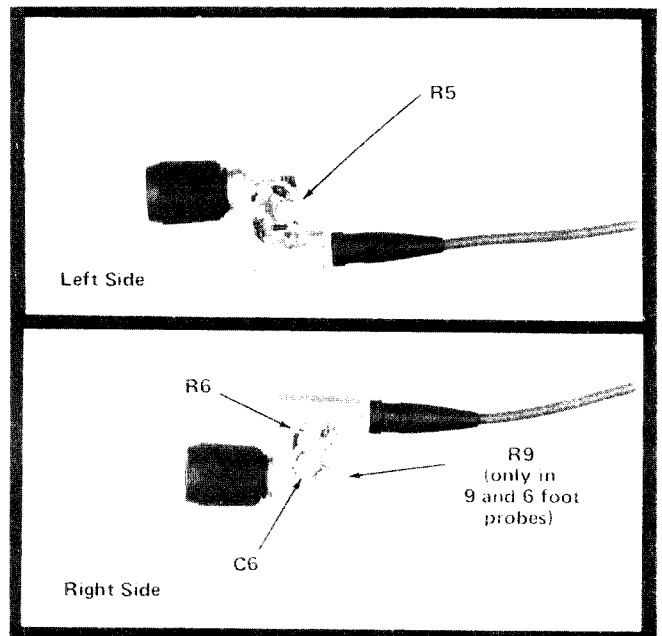

Fig. 9. Location of high-frequency compensation adjustments.
2) Adjust R5 and R6 (also R9 with the 6-ft and 9-ft probes) for the best overall flat response. See Fig. 9 for adjustment locations.